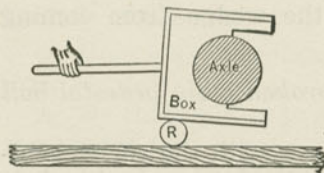

Fig. 388. Handling Driving Boxes.
A. (1) Replace the broken piece with the corresponding one from the back jaw. Or (2) if it is a broken bolt and the piece is long enough, batter a head on it and use it in the back jaw with one nut instead of two.
A. By a plank (blocked up to the right height and a two-inch pipe as a roller, as shown in Figs. 388 and 389).